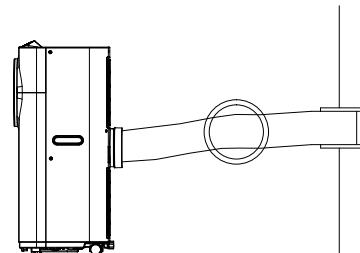

FIG.7
- Avoid kinks and bends in the exhaust hose as this will cause expelled moist air to build up causing the unit to overheat and shut down. Fig 7 & 8 show correct position